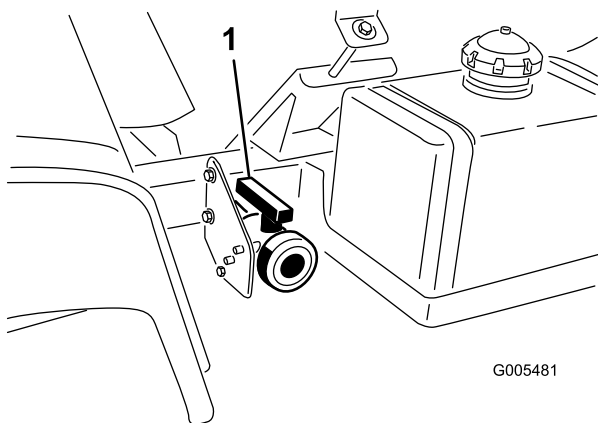

Figure 25
2. Locate the tank drain valve on the left side of the machine (Figure 25). The valve is on the frame in front of the fuel tank.